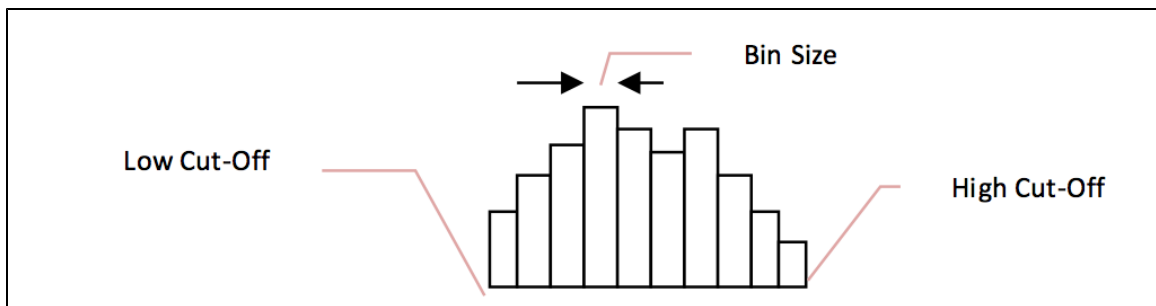

Figure 8. Illustration of high and low cut-off and bin size.
- **Hi cut-off:** Used to define the upper limit of the region of interest (ROI) in the spectrum. The spectrum above this value will not be saved or used in calculations. **(Figure 8)**
- **Low cut-off:** Used to define the lower limit of the region of interest (ROI) in the spectrum. The spectrum below this value will not be saved or used in calculations. **(Figure 8)**
- **Bin size:** The width (nm) of each bin that the spectrum is recorded in. **(Figure 8)**